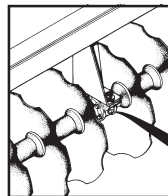

FIGURE 03
* When roller bearings in oil bath, they should be assembly with the lubrication system (plug) turning to the back of implement, as shown in Figure 03.